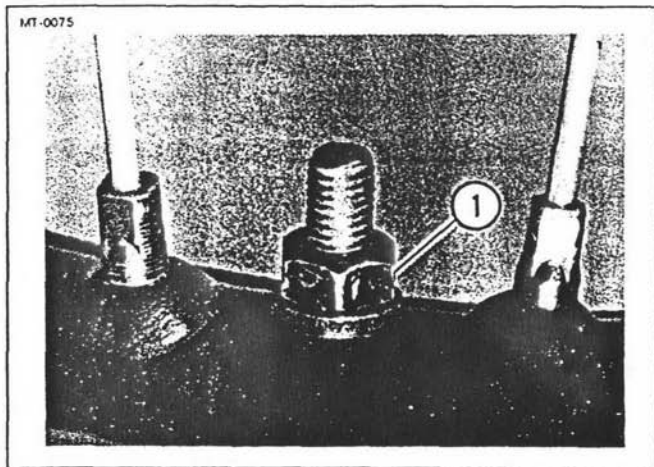

Figure 5-50. Bead Lock Nut
5. See Figure 5-50. Using a 13 mm wrench, loosen, but do not remove the bead lock nut (1).
14. See Figure 5-50. Using a 13 mm wrench, tighten bead lock nut (1)